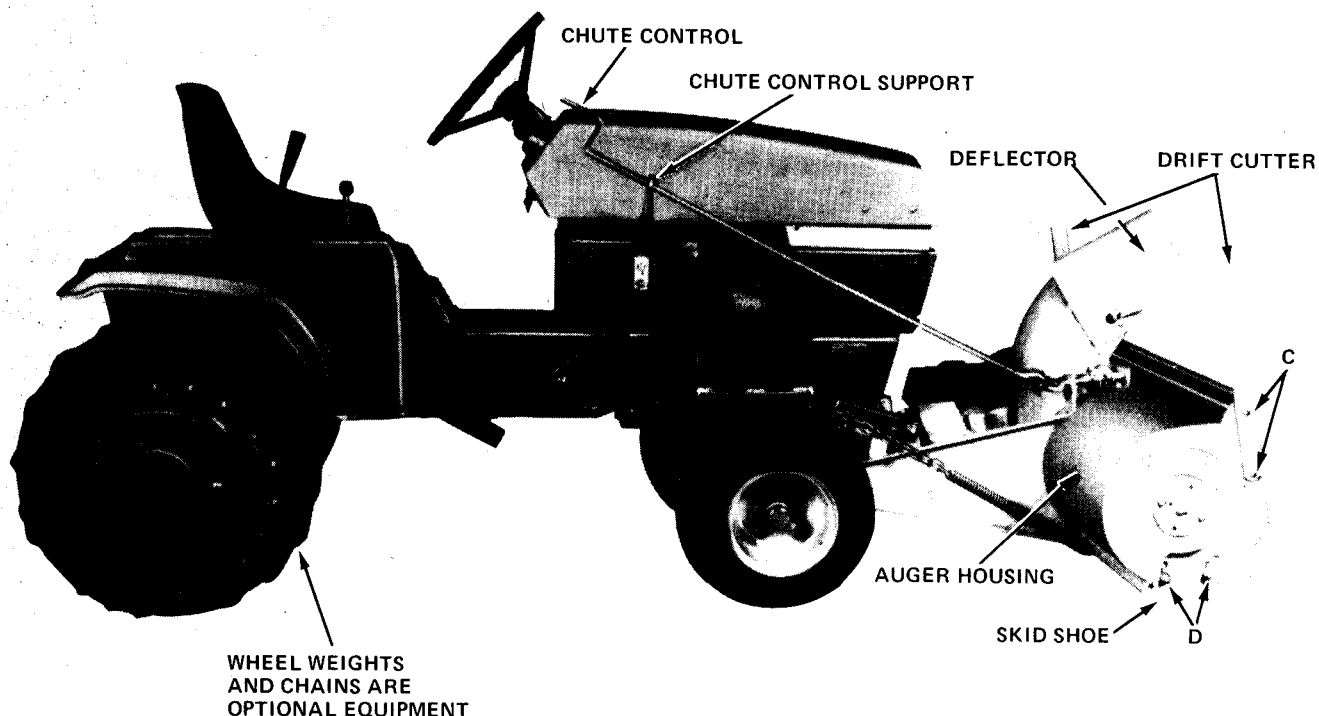

FIGURE 2
2. Secure drift cutters to the auger housing as shown at C. Figure 2 with the two hex head cap screws, lockwashers and nuts provided.
3. Install the skid shoes as shown in Figure 2. Each skid shoe should be installed at the same height. Secure at D with the carriage bolts, flat washers, lockwashers and nuts provided. Flat washers must be next to the slotted holes as shown.
4. Attach the chute control support to the tractor steering tower as shown in Figure 2. Secure with the carriage bolts, lockwashers and wing nuts provided.